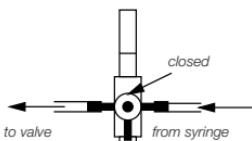

Fig. 8
- d) To release all air from the test assembly, turn the three-way faucet as shown in fig. 8.
- c) Turn the three-way faucet as shown in fig. 8 so that the manometer is isolated.